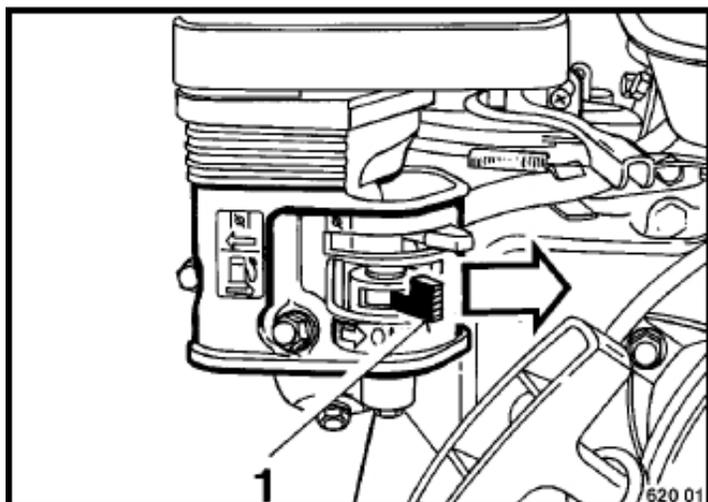

Fig. 6
- 1 Open the fuel valve 1 (Fig. 6) by turning it in direction of arrow to the end stop.